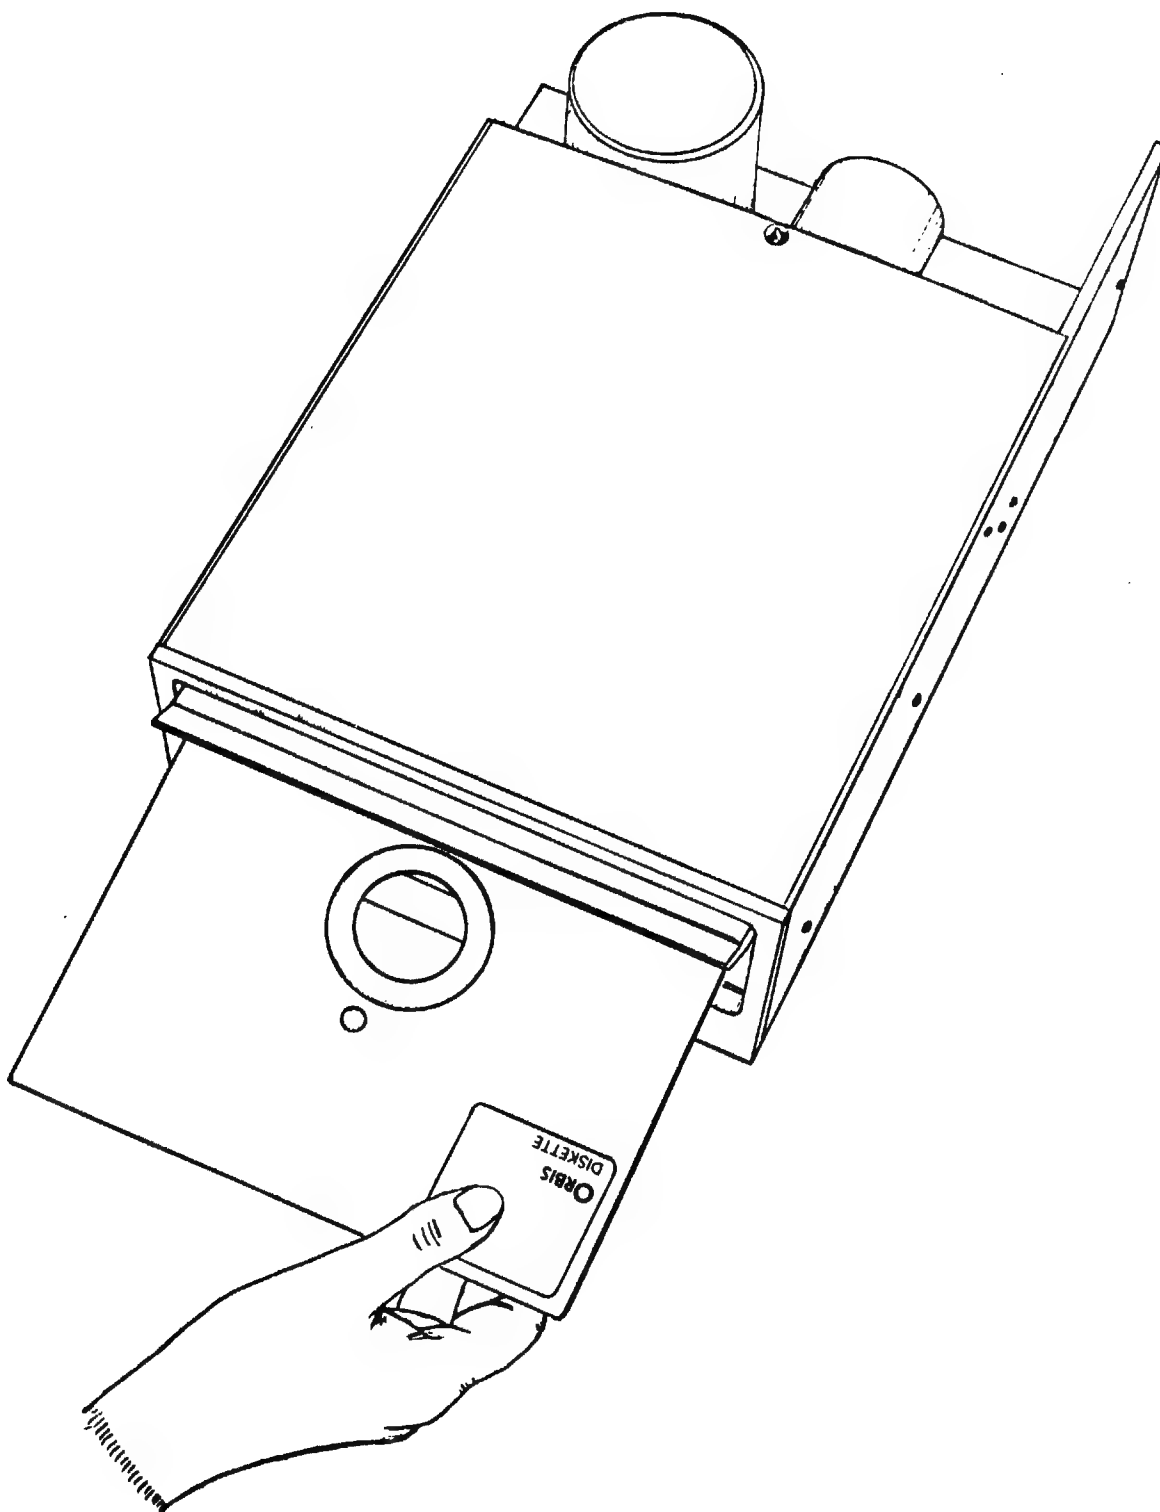

FIGURE 2-1
3. Carefully remove diskette from storage envelope and insert in Model 76 with index hole nearest operator and diskette label toward the door. (See Figure 2-1.)